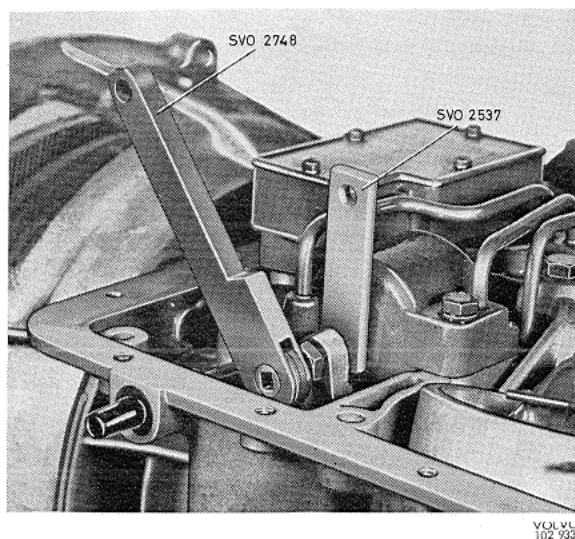

Fig. 32. Adjusting front brake band
1. Jack up and place blocks under the car. Drain out the fluid into an absolutely clean container. Remove the oil pan. Slacken the locknut for the adjusting screw of the front brake band. Place the spacer block SVO 2537 between the adjusting screw and the servo piston pin, see Fig. 32. Tighten the servo adjusting screw with a torque wrench SVO 2748 until the screw locks. This corresponds to a torque of 10 lb.in. (11.5 kg/cm).